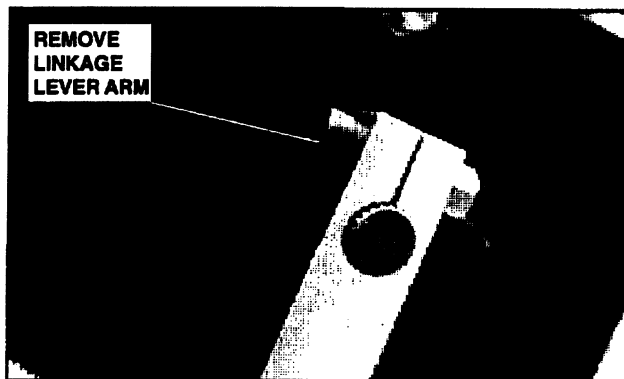

FIGURE 6.14A
9. Raise engine access cover and remove the Linkage Lever Arm from the stepping motor shaft. using a 5mm allen wrench. See Figure 6.14A.